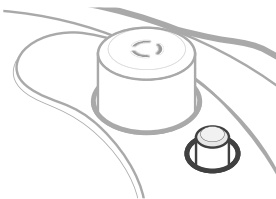

Figure 1.7
- Float valve up means there is pressure inside. [Figure 1.7]